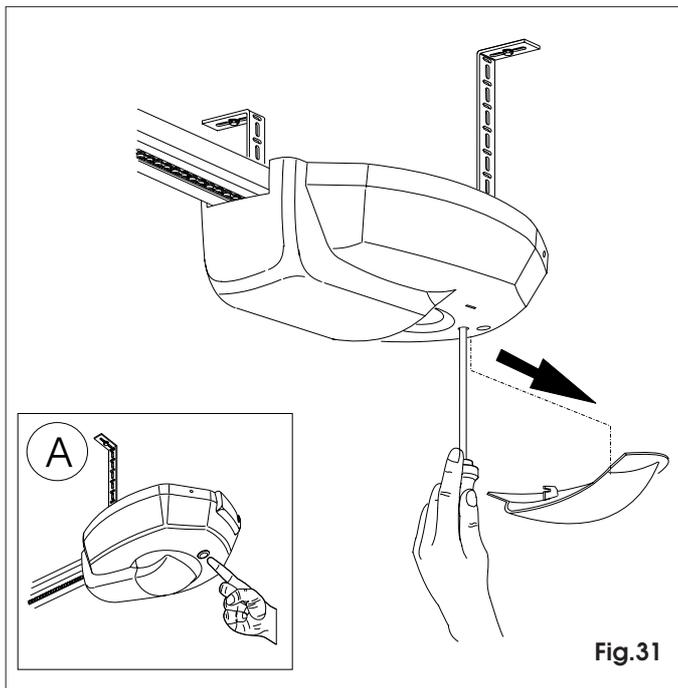

Fig.31
Slide the ceiling fixture in the direction shown by the arrow (fig.31).
**IMPORTANT: At set-up, if the operator does not effect any movement when the OPEN push-button (see fig.31 ref. A) is pressed, check that the housing is in correct position.**